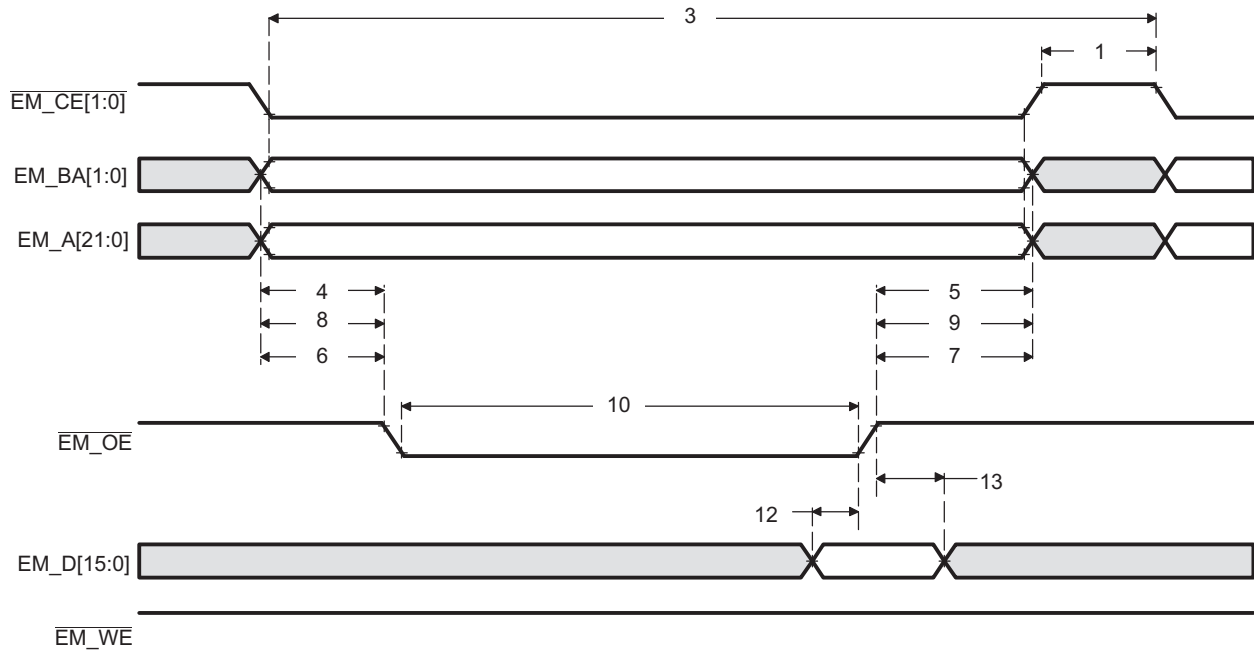
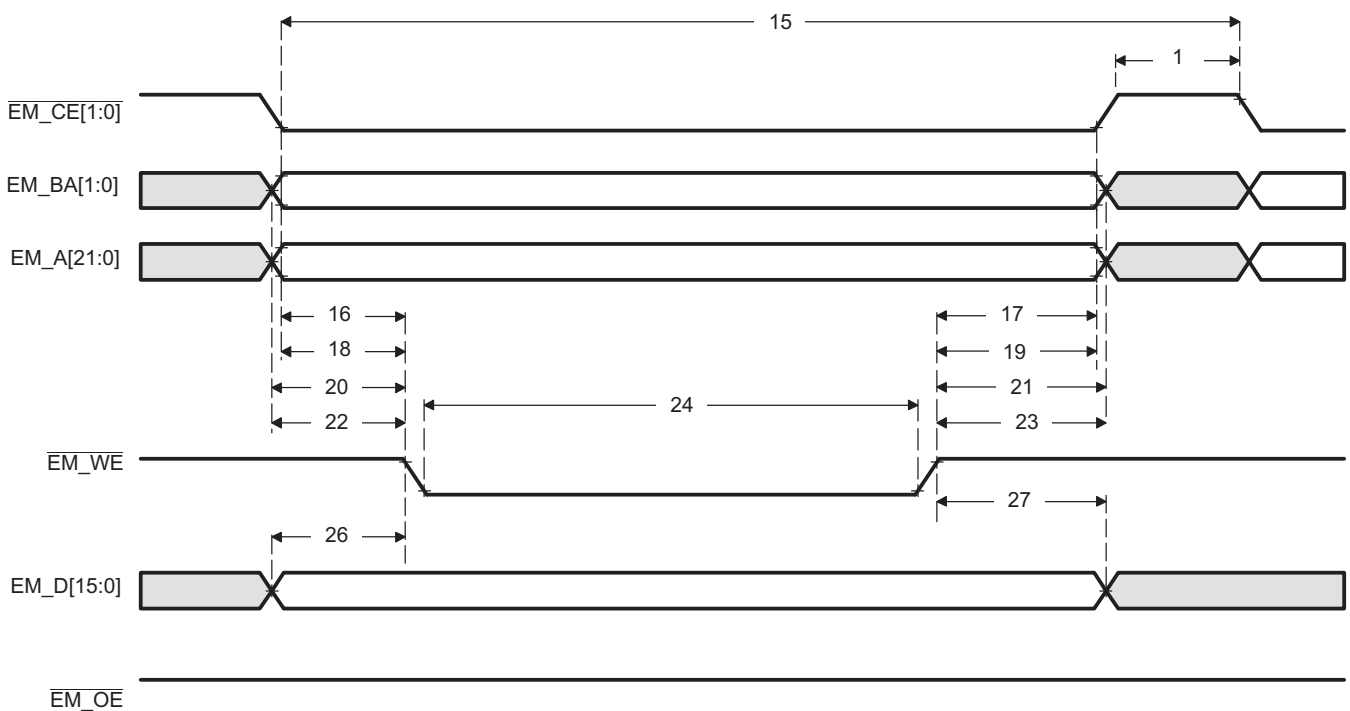

Figure 6-13. Asynchronous Memory Read Timing for EMIF
Figure 6-14. Asynchronous Memory Write Timing for EMIF
**Table 6-21. Timing Requirements for Asynchronous Memory Cycles for AEMIF Module(1) (see Figure 6-13 and Figure 6-14)**
**Table 6-22. Switching Characteristics Over Recommended Operating Conditions for Asynchronous Memory Cycles for AEMIF Module(1) (2) (3) (see Figure 6-13 and Figure 6-14)**
(1) TA = Turn around, RS = Read setup, RST = Read strobe, RH = Read hold, WS = Write setup, WST = Write strobe, WH = Write hold, MEWC = Maximum external wait cycles. These parameters are programmed via the Asynchronous Bank and Asynchronous Wait Cycle Configuration Registers. These support the following range of values: TA[4-1], RS[16-1], RST[64-1], RH[8-1], WS[16-1], WST[64-1], WH[8-1], and MEW[1-256]. See the *TMS320DM36x DMSoC Asynchronous External Memory Interface User's Guide* (SPRUFI1) for more information.
(2) E=2\*PLL1C SYSCLK4 period in ns. See Section 3.3 for more information.
(3) EWC = external wait cycles determined by EM\_WAIT input signal. EWC supports the following range of values EWC[256-1]. Note that the maximum wait time before timeout is specified by bit field MEWC in the Asynchronous Wait Cycle Configuration Register. See the *TMS320DM36x DMSoC Asynchronous External Memory Interface User's Guide* (SPRUFI1) for more information.
**Table 6-22. Switching Characteristics Over Recommended Operating Conditions for Asynchronous Memory Cycles for AEMIF Module(1) (2) (3) (see Figure 6-13 and Figure 6-14) (continued)**